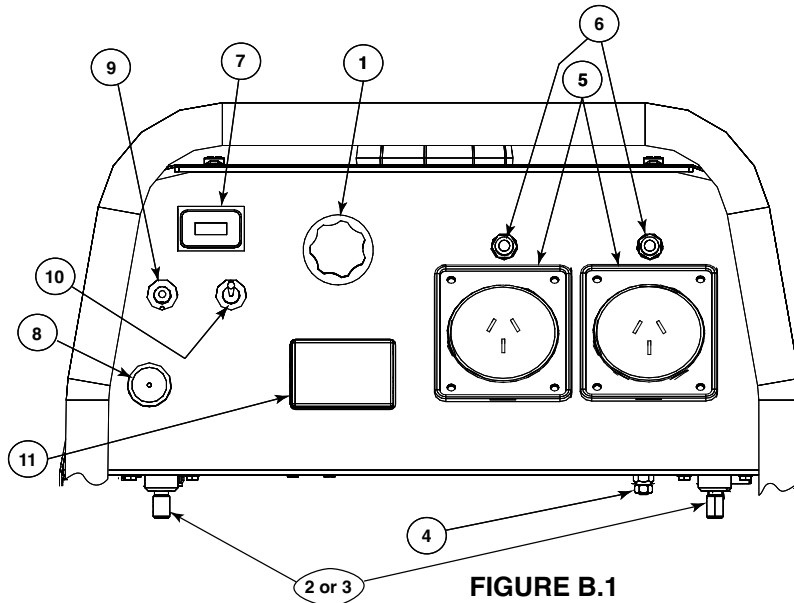

FIGURE B.1
- The OUTBACK™ 185 (AU) is not recommended for any processes besides those that are normally performed using stick welding (SMAW) procedures.
- The OUTBACK™ 185 (AU) is not recommended for pipe thawing.
**CONTROLS AND SETTINGS** All welder/generator controls are located on the Output Control Panel. Petrol engine controls are mounted on the control panel. See Figure B.1 and the figures in engine operation section.
See Figure B.1 for the location of the following features:
1. Remove the flange nuts from the weld output terminals and place the work and electrode welding cables over the terminals. See Figure B.1. Replace and tighten the flange nuts securely. Be sure the connections are tight.
**TO USE THE OUTBACK™ 185 (AU) AS AN AUXILIARY POWER SUPPLY:**
2. Set the current control dial on the output control panel to "MAX." See Figure B.1.